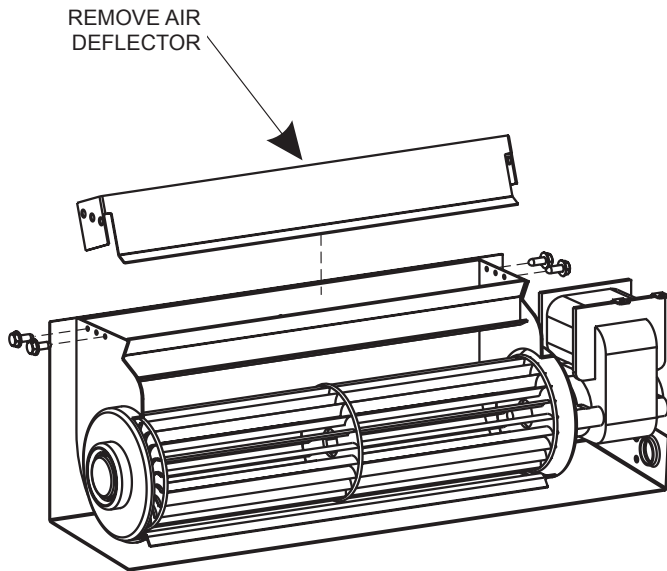

Figure 21
3. Remove air deflector by removing the four screws securing it to the blower assembly, and discard. **See Figure 21.**